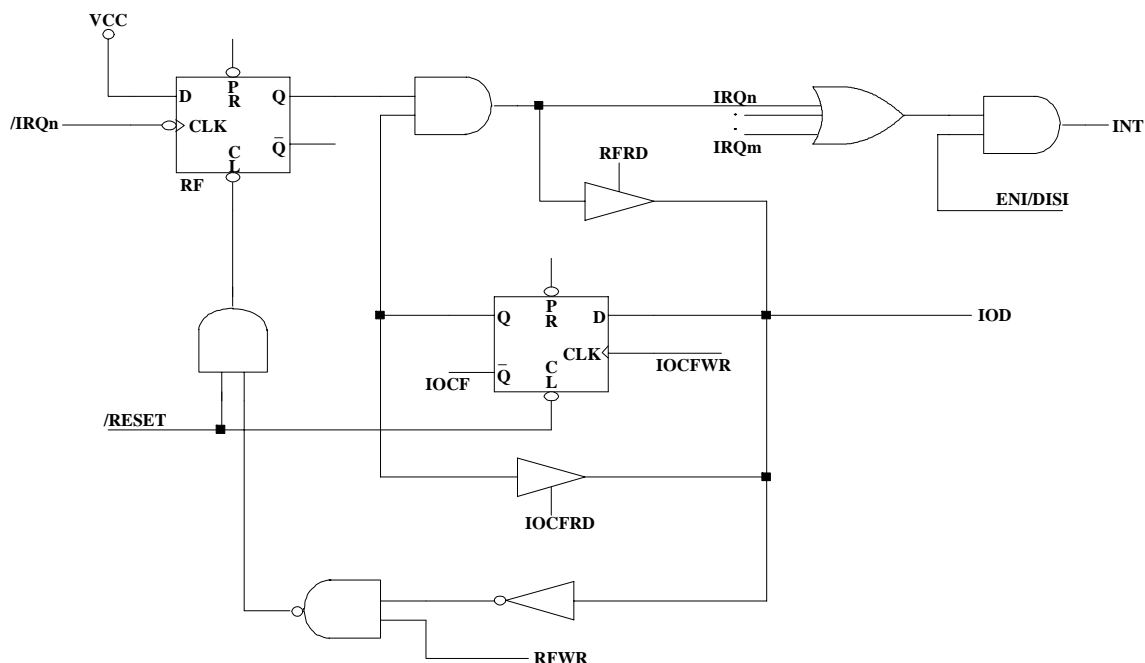

Fig. 10 Interrupt Input Circuit
The flag (except ICIF bit) in the Interrupt Status Register (RF) is set regardless of the status of its mask bit or the execution of ENI. Note that the outcome of RF will be the logic AND of RF and IOCF (refer to Fig. 10). The RETI instruction ends the interrupt routine and enables the global interrupt (the execution of ENI).